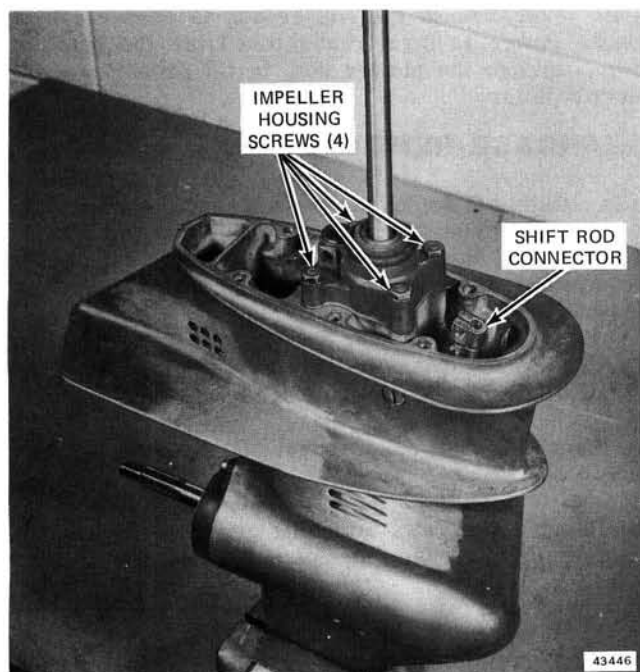

Figure 6-5. Gearcase on Bench for Disassembly
d. Remove gearcase assembly from exhaust housing, taking care to avoid damaging driveshaft, which extends upward to the power head. Place gearcase on bench for disassembly. See Figure 6-5.